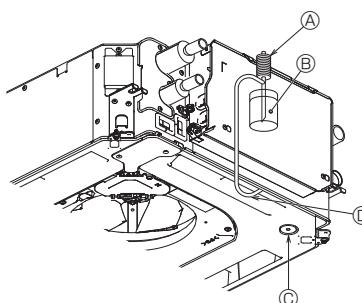

Fig. 7-11
- Point the remote controller towards the indoor unit receiver while following steps ③ to ⑧.
7.4. Check of drainage (Fig. 7-11)